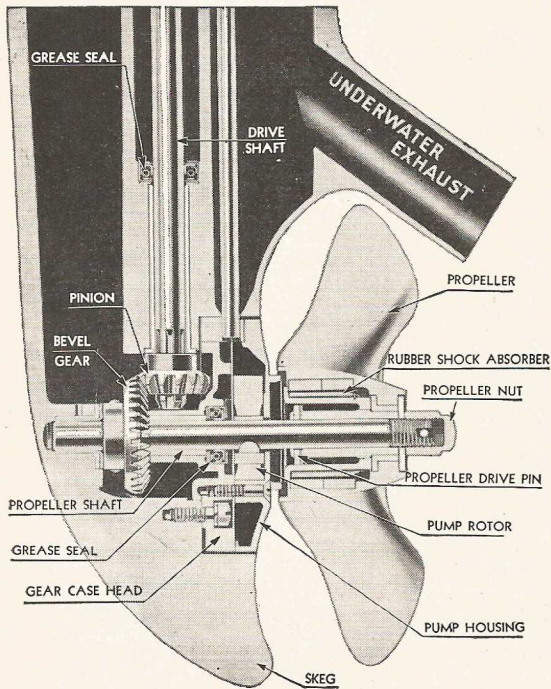

Fig. 44. Gear Case.
4. Reassemble in reverse order of that described above—installing whatever new parts may be necessary. Note: Bearings in gearcase and gearcase head are cast in, consequently when found to be excessively worn are not replaceable—a new gearcase and gearcase head are required under these circumstances. Driveshaft, propeller shaft and bearings are machined to such sizes to permit clearance of $.0015''$ on propeller bearing and $.0025''$ on driveshaft bearing. When necessary to install new gearcase and gearcase head, it is advisable to include new driveshaft and propeller shaft assembly. Fig. 44 and 44-A.